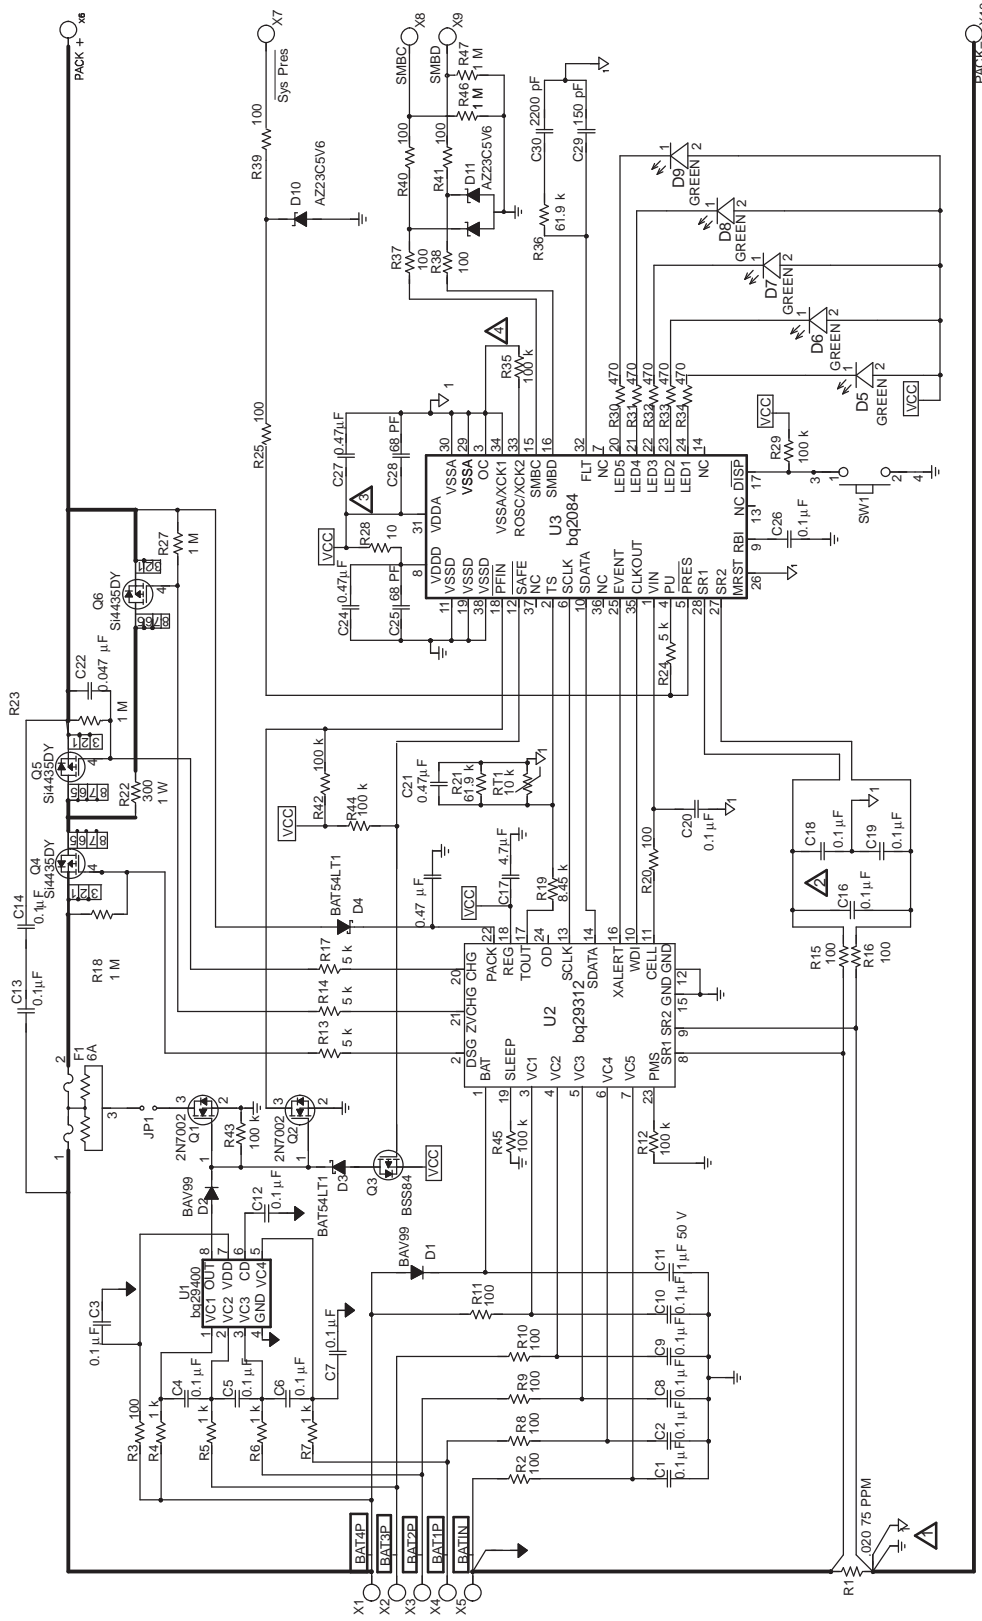

Figure 7. bq2084-V133 Based Battery Pack Schematic
**Figure 7** shows a typical bq2084-V133-based battery pack application. The circuit consists of the bq29312 AFE IC, bq29400 second-level protection IC, LED, temperature measurement network, data flash connections, serial port, and the sense resistor. The data flash stores basic battery pack configuration information and measurement calibration values. The data flash must be programmed properly for bq2084-V133 operation.